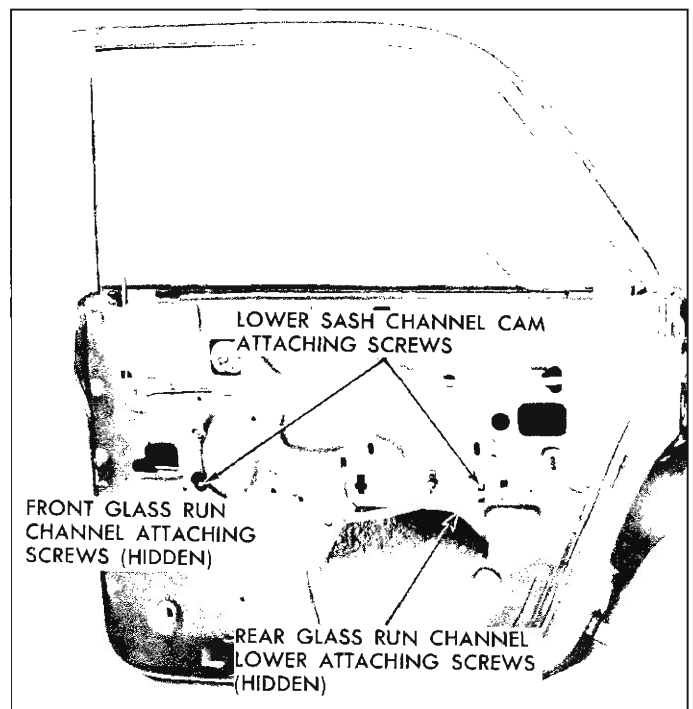

Fig. 14—Rear Door Assembly—“69” Style
- Remove front and rear attaching screws from hinge and lock pillar facing of door inner panel (see Figure 14).
Lower door window sufficiently to gain access to lower sash channel cam attaching screws through access holes in door inner panel and remove screws (see Figure 14).
2. Remove lower sash channel cam attaching screws and disengage cam from sash channel (see Figure 14).